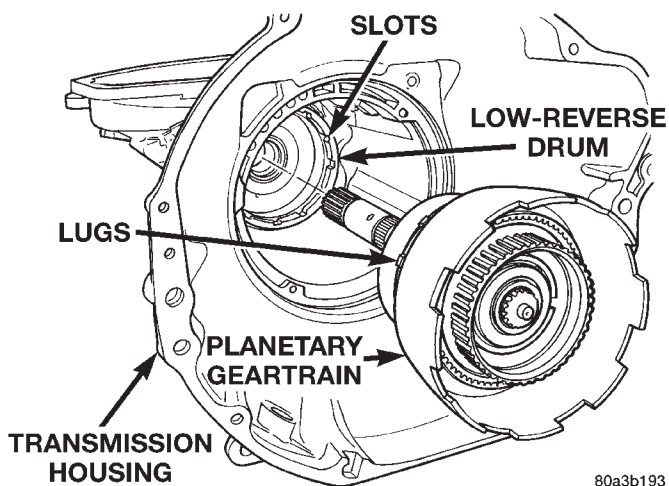

Fig. 79 Planetary Geartrain
(24) Remove governor body and park gear from output shaft.
(25) Remove output shaft and planetary geartrain as assembly (Fig. 79). Support geartrain with both hands during removal. Do not allow machined surfaces on output shaft to become nicked or scratched.